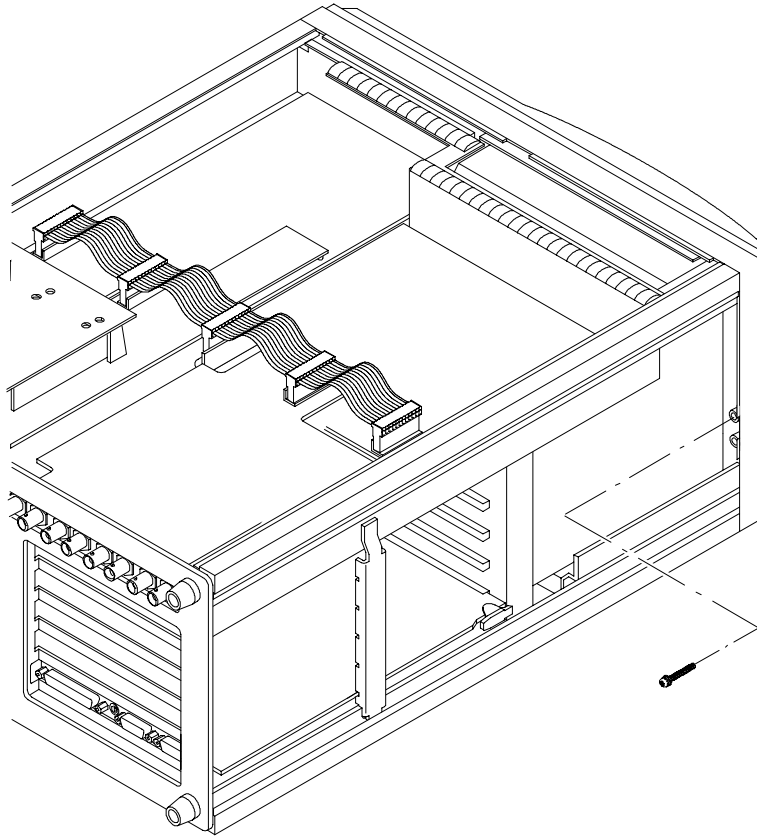

Figure 3: Locating the bezel retaining screws
- a. Remove the four screws holding the bezel to the front frame (see Figure 3). There is one screw on each side and one each in the top and bottom of the bezel.
- f. Reinstall and tighten the four screws that hold the bezel to the front frame. (See Figure 3 on page 6.)